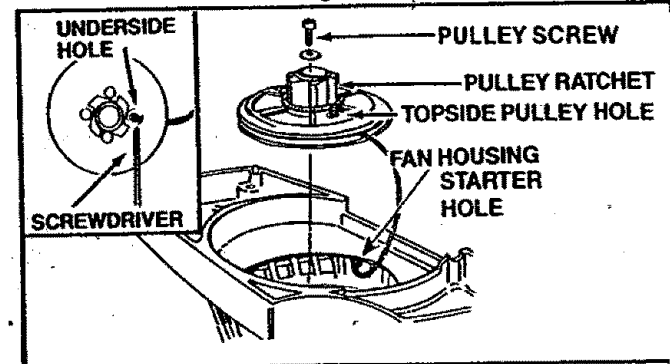

Figure 50
5. Remove the pulley screw in the center of the pulley. Figure 50.
10. Feed the rope through the housing and the round starter hole. Figure 50.
11. Guide rope inside pulley, then through the topside pulley hole by pushing the rope from the underside hole with a small round object such as a Phillips screwdriver. See insert, Figure 50.
12. Wrap rope counterclockwise around pulley ratchet and tuck loose end back under rope leaving a 3/8-1/2 inch tail. Pull tightly around ratchet. Figure 50.